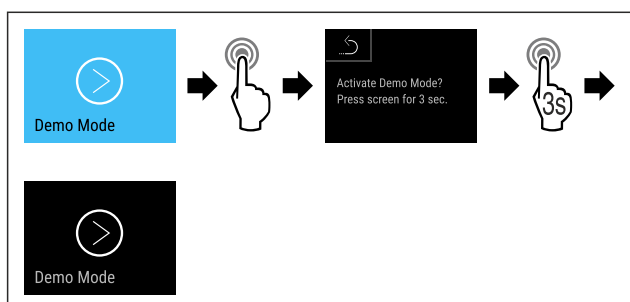

Fig. 161
- ▶ Complete steps (see Fig. 161) .